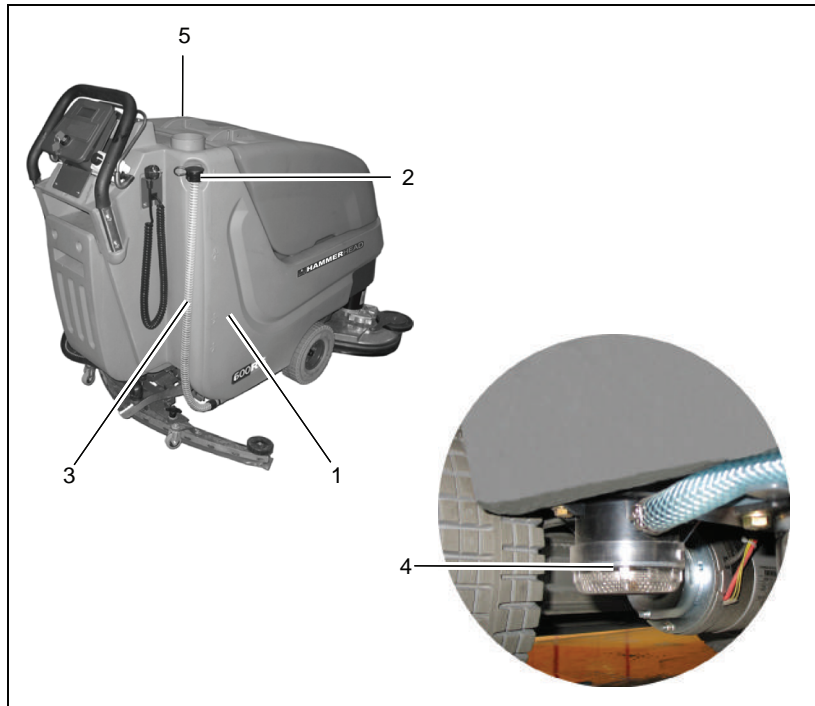

Fig.8
Fill solution tank (Fig. 8/1) before work or as required. Park vehicle on level ground. Open tank lid (Fig. 8/5) and fill tank up to the maximum (1/1 marker) (Fig. 8/2).
Alternatively, filling of the machine via quick coupling (Fig. 8/6) is available. Before doing so, connect the filling hose of the dosage unit and the quick coupling. The floater valve automatically closes after the maximum filling level has been attained.
Park vehicle such that the fill level hose (Fig. 8/3) is located above the drain aperture in the floor. Take fill level hose from holder and remove lid.
Check solution filter (Fig. 8/4) at weekly intervals and clean or replace if required.
1. Empty solution tank (Fig. 8/1), see paragraph 5.5.2.